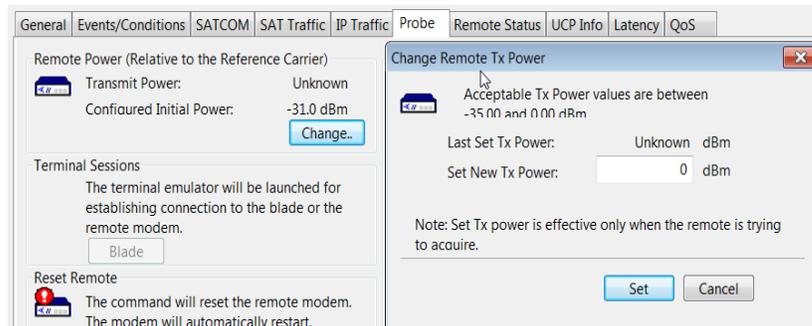

Figure 3-14. iMonitor Probe: Changing the Satellite Router Transmit Power
4. In the **Remote Power** section of the **Probe** dialog box, click **Change** to open the **Change Remote Tx Power** dialog box (Figure 3-14).
6. In the **Change Remote Tx Power** dialog box (Figure 3-14 on page 45):